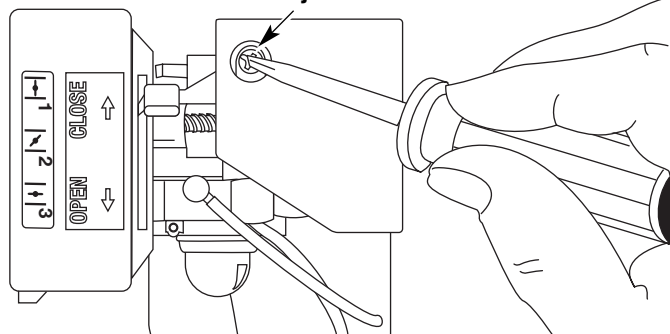

Fig. 26
The idle speed of the engine is adjustable. An idle adjustment screw is between the air filter cover and the engine starter housing (Fig. 26).
2. Move the throttle control lever to the Slow position (🐢) and let the engine idle. If the engine stops, insert a small phillips in between the Air Filter Cover and the Engine Cover (Fig. 26).